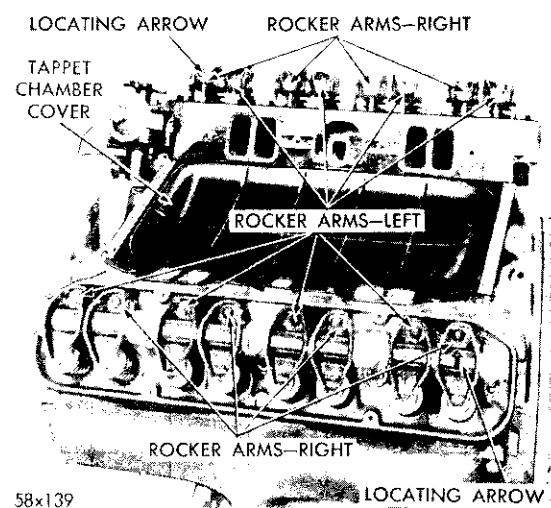

Fig. 7—Rocker Arm Installed
(1) Remove cylinder head cover and gasket.
(2) Remove the bolts that attach rocker arm support brackets to cylinder head and remove the rocker arms, brackets and shaft as an assembly.
(3) If the rocker arm assemblies have been disassembled for cleaning, inspection, or replacement, refer to Figures 7 and 8 for proper reassembly.
**NOTE:** The right and left rocker arms must be installed on rocker shaft, as shown in Figure 7. The stamped arrow on rocker shaft must be on top and the arrow must point toward the push rod side of the rocker arm. This is necessary to provide proper lubrication to the rocker assemblies. The two wide brackets must be installed with the oil feed grooves facing the push rod side of rocker arm, as shown in Figures 7 and 8.
(2) Tighten the rocker shaft bracket bolts to 30 foot-pounds.
(7) Install the rocker arm and shaft assembly starting each push rod into its respective rocker arm socket (Figure 7).
(8) Place the new cylinder head gaskets in position and install cylinder head covers. Tighten the nuts to 40 inch-pounds.
(9) Install exhaust manifolds and tighten nuts to 30 foot-pounds.
(10) Adjust spark plugs to .035 inch gap and install the plugs, and tighten to 30 foot-pounds with Tool C-3054.
(11) Install a new tappet chamber cover and tight-